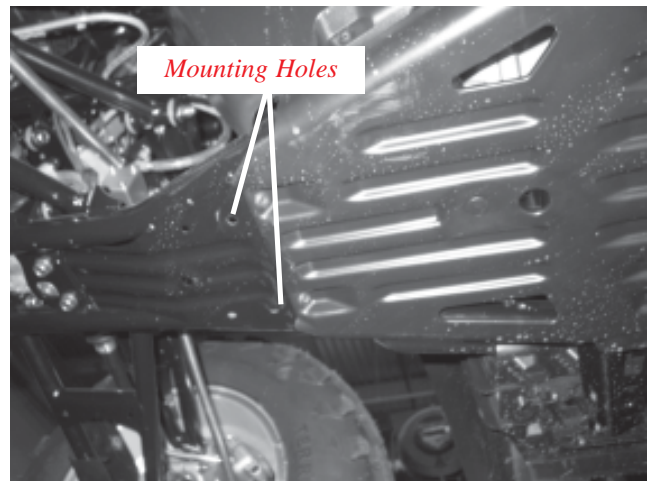

Figure 1
2. Place hex head bolts (C1) and washers (C2) through L bracket (D1). Locate holes in Figure 1 and place L bracket with bolts through holes, as shown in Figure 2.